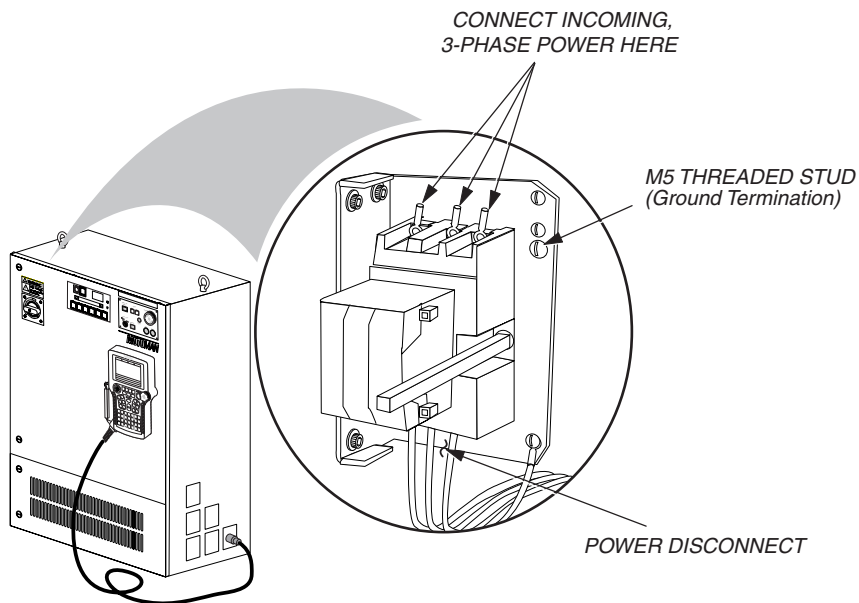

Figure 16 Incoming Power Connections
1. Install 3-phase power wiring to the circuit breaker located inside each XRC cabinet (see Figure 16). Table 4-1 shows the size and type of wire needed.